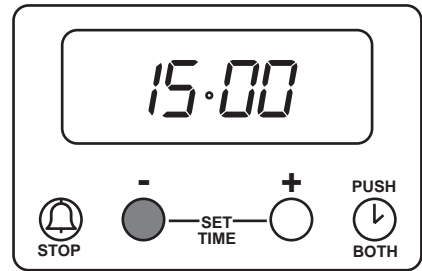

Fig. 9
The cookpot symbol (⌚) will go out. See Fig. 9. If using the oven it will come on again once button (1) has been depressed. When cooking is complete remove food and turn OFF oven temperature control.